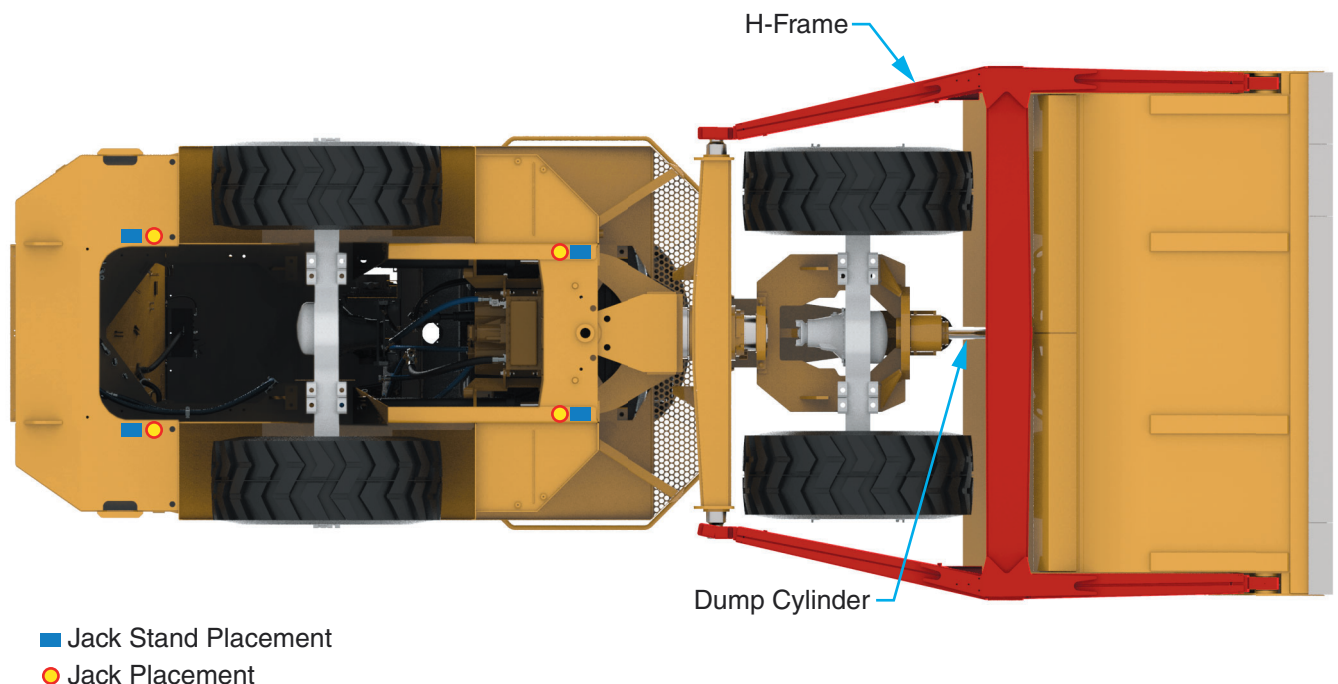

Figure 5-6-1 Jacking Locations
4. Use jack(s) in location(s) illustrated (See Figure 5-6-1). Use pads (anti slip material) that are minimum 4" x 4" in size between jack and Dozer to prevent damage.